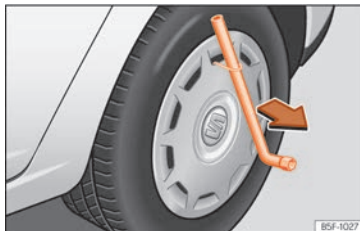

Fig. 42 Remove the wheel cover.
- Insert the box spanner through the hook, rest it on the tyre and remove the wheel trim »» Fig. 42.